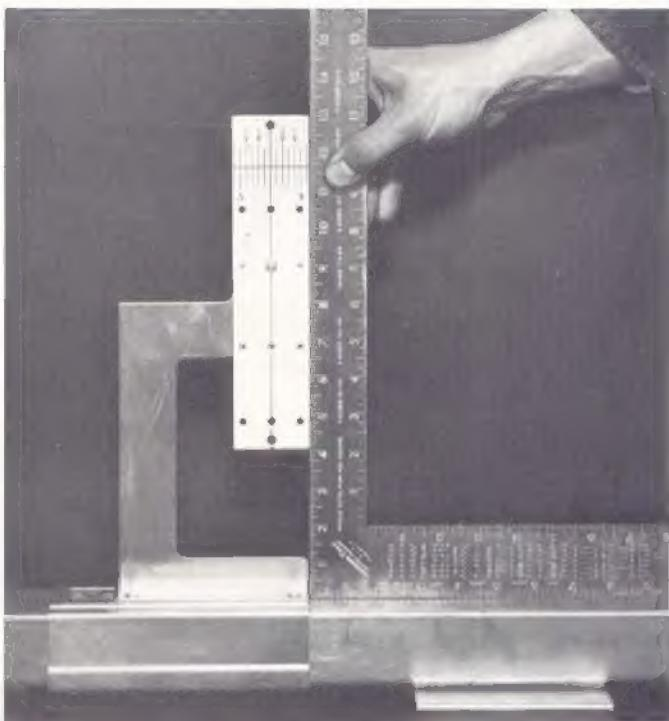

FIGURE 12
- 2. TO CHECK REAR TOE GAGE (Supplied as an accessory):** Use a carpenter square to check the squareness of the flags with the toe gage channel. (See Figure 12.) It may be necessary to straighten or shim the flags if they are bent.